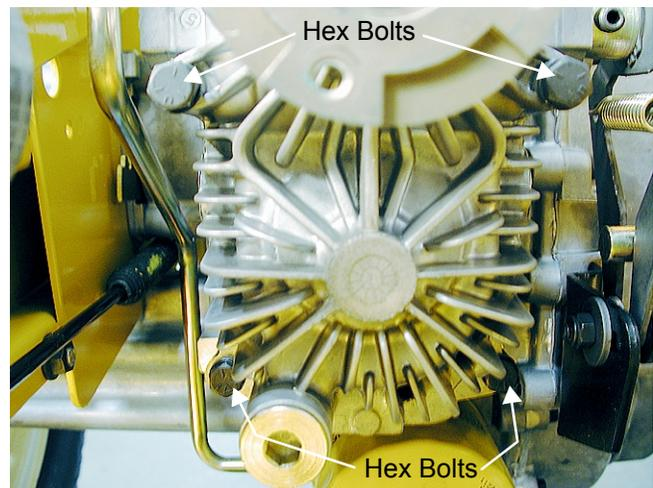

Figure 7
15. Remove all four hex cap screws and lock washers securing the BDU-10L to the transmission assembly using a 1/2 in. socket. See Figure 7.